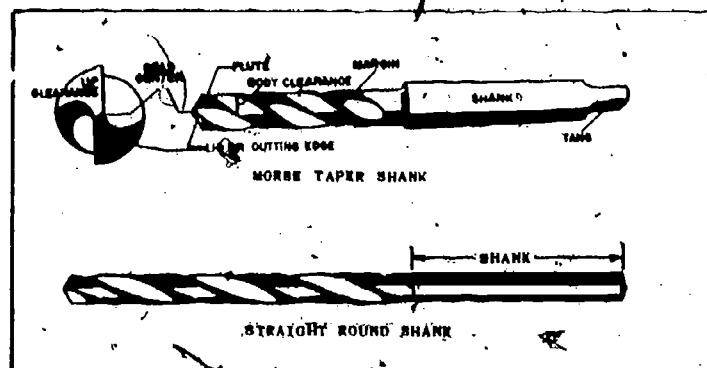

Fig 1-19. Twist drills.
The size of twist drills (fig 1-19) is designated in three ways: letters, A to Z; numbers 1 to 80; and fractions of an inch. The letter sizes range from 0.234 (A) to 0.413 (Z); the number sizes range from 0.0135 (80) to 0.228 (1); the fractional sizes range from 1/64th to 1 in. You will find the size of the twist drill stamped on the shank unless it has been mutilated. The three principal parts of a twist drill are the point, body, and shank (fig 1-19). Twist drills are available with different types of shank and two, three, or four flutes. The Morse taper or straight shank twist drills with two flutes are the type normally used by the mechanic. The 3- and 4-flute twist drills are used to enlarge holes. The straight round shank is used with the gear-type chuck and the Morse tapered shank is used with the socket-type chuck. To drill a hole with the portable electric drill, center punch the material at the location for the hole. Select a straight, sharp, twist drill of the proper size (high-speed steel twist drills for machines with high rpm; and carbon steel twist drills for machines with low rpm). Install the shank into the chuck; straight round shank in the gear-type chuck and Morse taper shank into the socket chuck. Tighten the jaws of the gear-type chuck firmly on the drill shank or push the tang of the Morse taper shank into the slot of the socket chuck. Plug the machine into the electrical outlet, making sure prong plug and socket are properly grounded. Start the drill by pulling the switch and then place the tip of the twist drill in the center punch mark. Use enough pressure to make it cut. Figure 1-20 shows the correct chip curl of a good, sharp drill operating at the proper speed with the correct pressure.